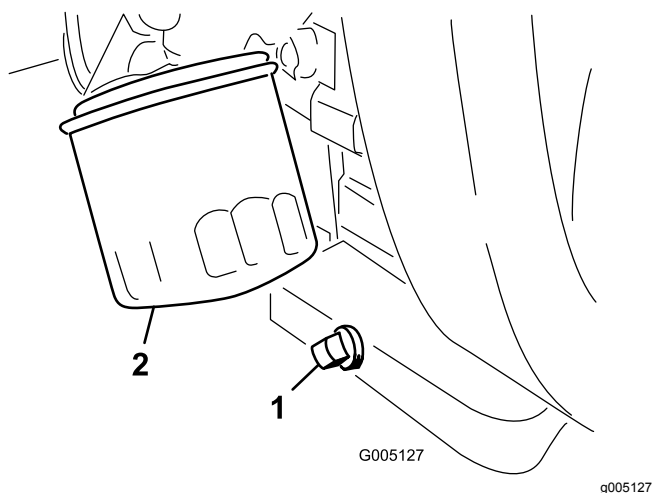

Figure 28
1. Remove the drain plug (Figure 28) and let the oil flow into a drain pan. When the oil stops, install the drain plug.
2. Remove the oil filter (Figure 28).